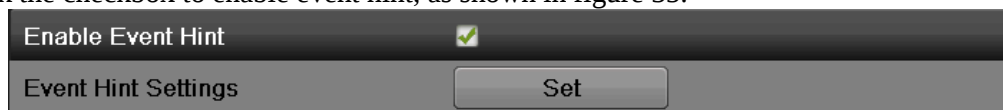

Figure 35 Event Hint Setting Menu
2. Check the checkbox to enable event hint, as shown in figure 35.